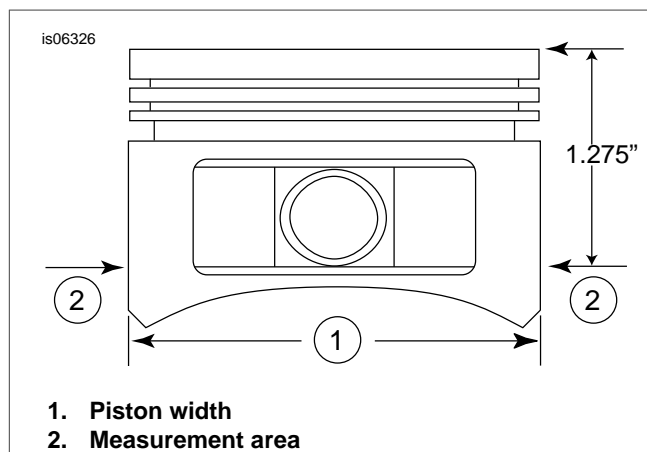

Figure 2. Piston Measurements
5. See Figure 2. Measure the piston width (1), 90 degrees horizontally from both sides of the piston pin hole and 1.275 in. down from the deck surface (top) of the piston (2). See table 20 for piston-to-cylinder fit at this location.